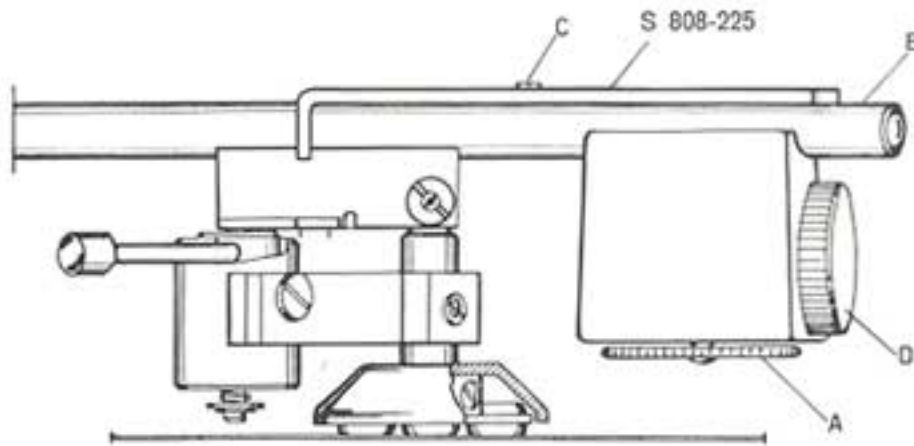

Fig. 8. Rear part of the pick-up arm.
- a) Place the counterweight underneath the pick-up arm extension B, the sliding tube entering the corresponding hole on the counterweight (see Fig. 8).
- a) Place the stylus force calibration plate (part S 808-225) on top of the pick-up arm extension B according to Fig. 8 and 9, with pin C on the arm extension in the slot of the calibration plate. **Position the calibration plate with pin C in the indentation of the scale corresponding to the stylus force recommended by the cartridge manufacturer. Each indentation corresponds to 1/4 gram.**